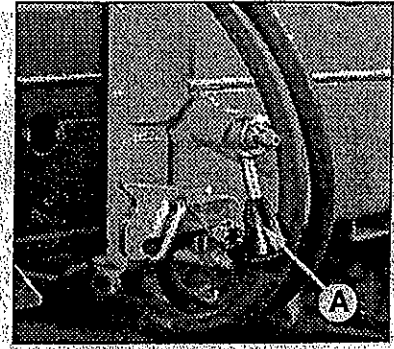

fig. 21
- Re-position the lever **A** (fig. 21) downwards; the spring loaded security pin, free to rotate respect of the lever, stays in the released position.